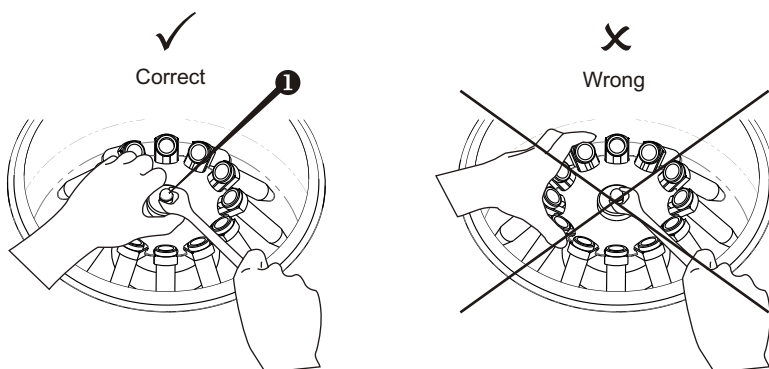

Fig.2 Rotor fixation
- Hold the rotor with one hand and with the help of the supplied wrench (13 mm) turn fixation nut (fig.2/❶) counter-clockwise to release the rotor.
Caution! Do not hold the rotor by rings or adapters mounting when mounting and fixing it. Hold the rotor as shown on Fig. 2 (Correct).